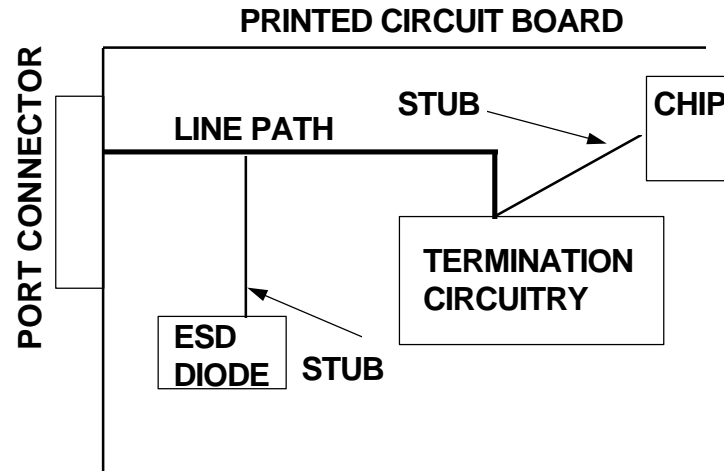

Figure G.2- Stub examples
- d) Stub: Any electrical path connecting to the line path but not part of the line path (See Figure G.2).